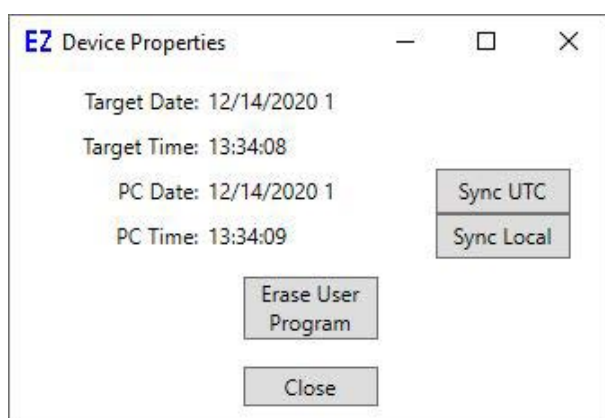

Figure 4-7
1. If the target is connected to normally, press the **F11** key on your computer's keyboard. The Device Properties dialog box will appear as in Figure 4-7.